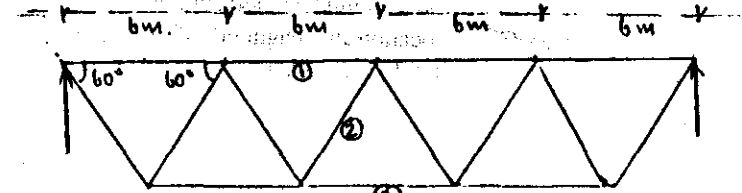

Fig.5
VI Draw influence line for forces in members (1), (2) and (3) in the truss in Fig.5. Find their maximum value due to three point loads 8 kN, 8 kN and 4 kN separated by distance 2m and 3m respectively. The loads can traverse in either directions.